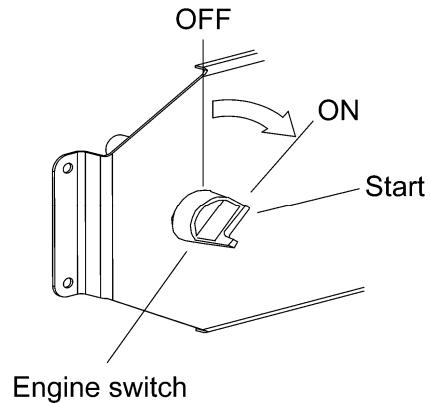

Figure 11 Engine switch drawing
1. Insert the engine key and turn the engine switch to “ON” position. (See figure 11).